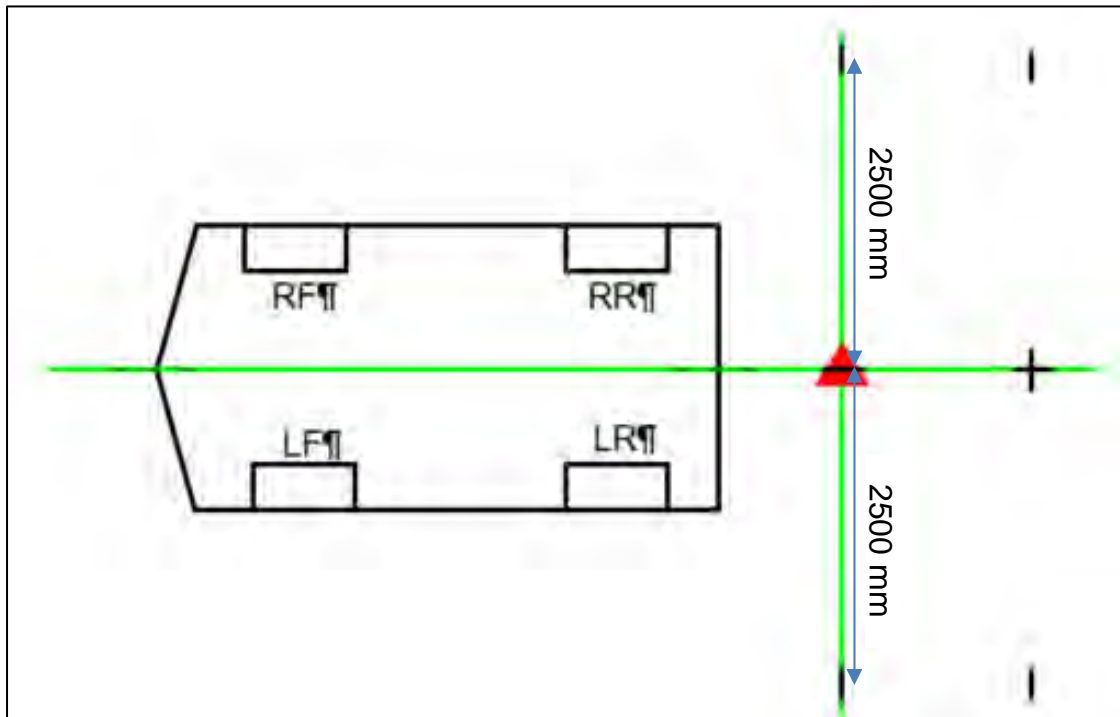
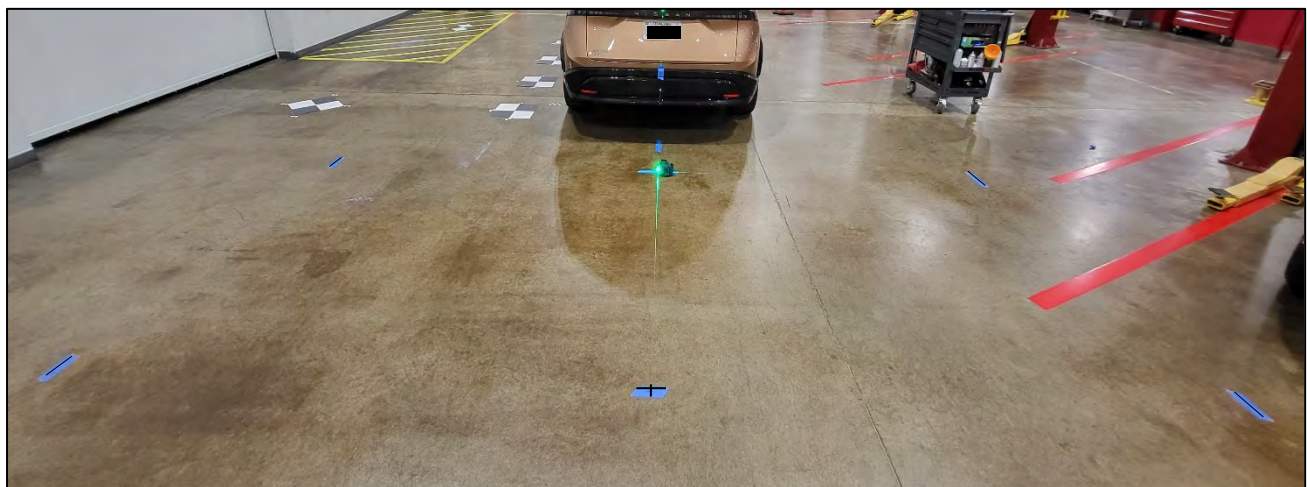

Figure 78
Figure 79
52. Move the laser to the 500 mm mark, and then measure and place a mark 2500 mm to the left and to the right of the laser level, as shown in Figure 78 and Figure 79.